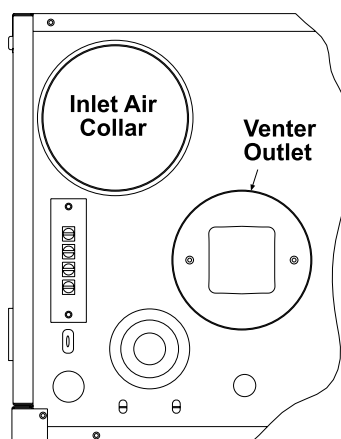

Figure 1. Typical Combustion Air Inlet and Venter Outlet Connections
- Connections are shown in **Figure 1**. Connection sizes are listed in **Table 1**.